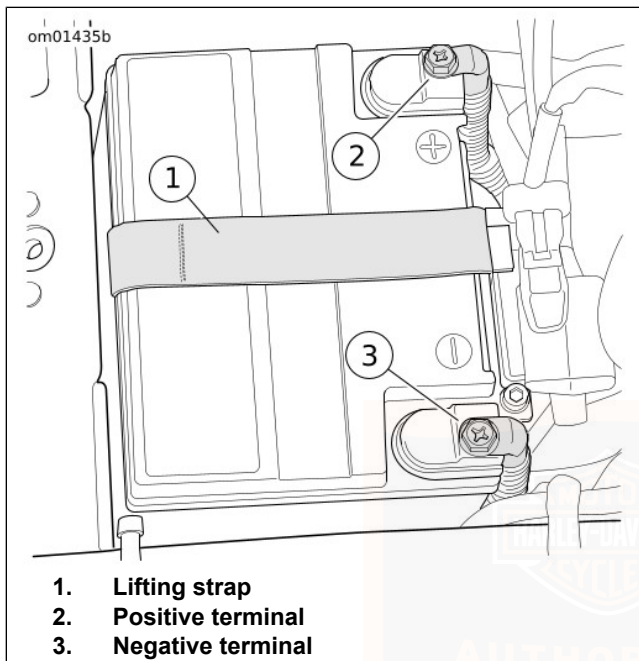

Figure 91. Battery Compartment
10. See Figure 91. Disconnect both battery cables, negative battery cable first.
3. See Figure 91. Place the battery into the battery tray, terminal side forward.